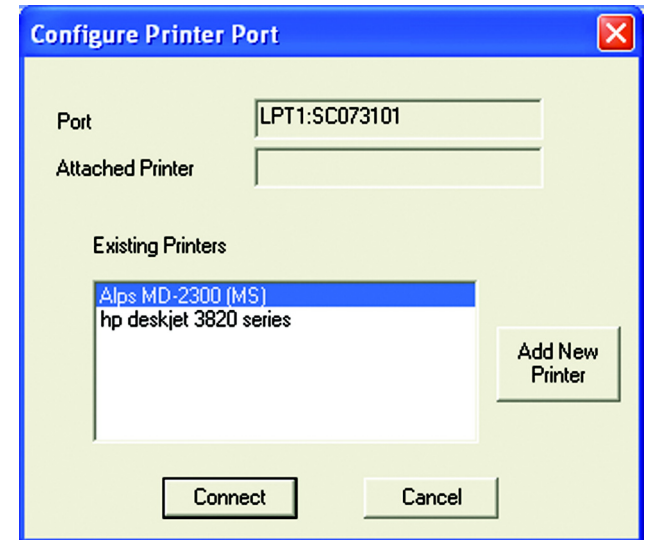

Figure 5-8: Configure Printer Port
5. The *Configure Printer Port* screen will appear, as shown in Figure 5-8. Your installed printer(s) will appear in the field. Select the printer you want, and click the **Connect** button to associate the printer with your selected printer port. To add another printer, click the **Add New Printer** button.